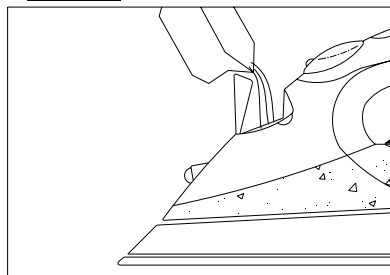

Fig. 2
2. Holding the iron at a slight angle, pour water slowly into the water filling inlet. See figure 2. Fill tank to desired level or to the "MAX" water level marking using the water filling flask. (When the iron is upright, the blue, see-through water tank allows you to gauge the amount of water.) **DO NOT** overfill the tank.